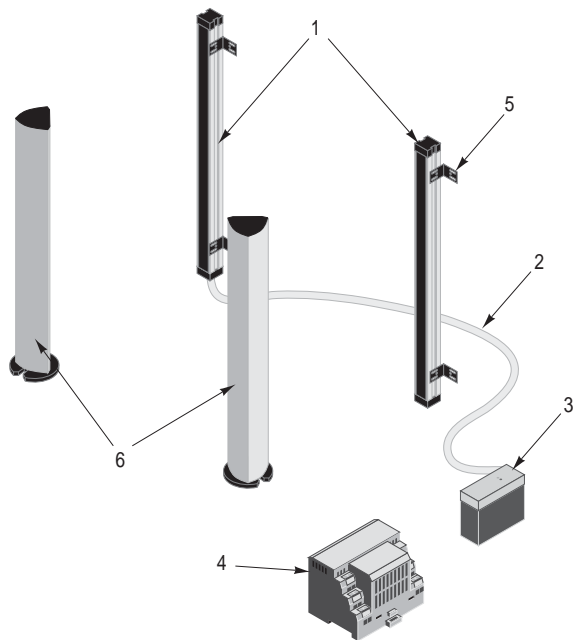

Figure 5
**Components required for a multiple-beam Perimeter Access Control system (PAC), see Figure 5:**